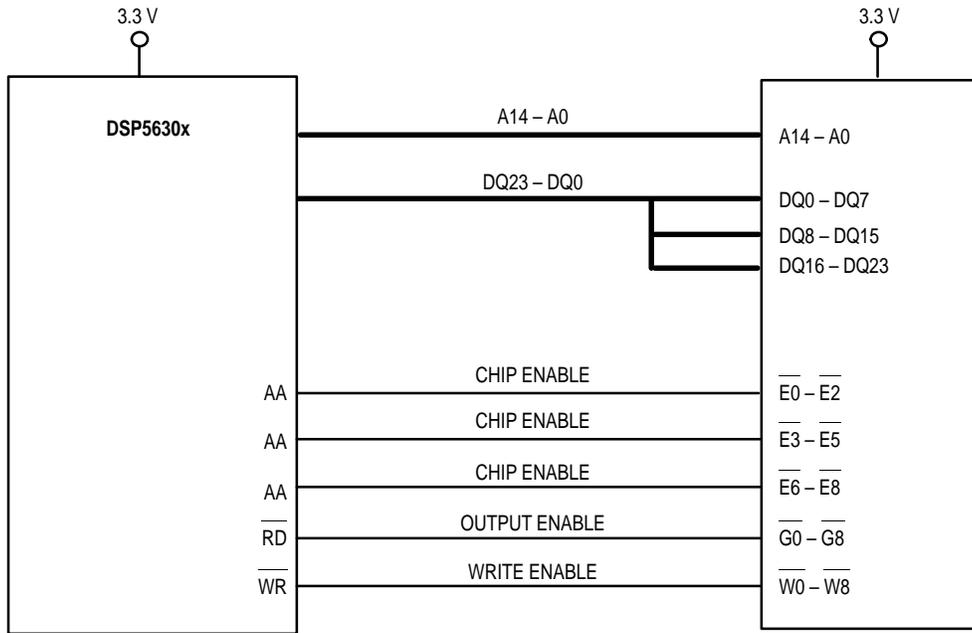

Figure 3. DSP5630x Connection to (32K x 8) Based Module on X, Y, and P Memory
The proposed module in Figure 1 is composed of nine 3.3 V, 32K x 8 based FRAMS. The RAMs are used in groups of 3 to accommodate the 24-bit bus architecture of the DSP. Selection is segmented into 3 banks, providing a total memory depth of 96K. Bank selection for use of X data space, Y data space, and program memory is facilitated by means of DSP56301 AA control pins. Three AA control lines define which banks (memory type) are selected (see Figure 3). The address pins are directly connected to the address bus partitioned among the nine FSRAMs. The DSP output enable (RD) is directly connected to each FSRAM output enable, while the DSP write enable is connected to the nine FSRAM write enables. The data bus is connected sequentially across each bank of memory.